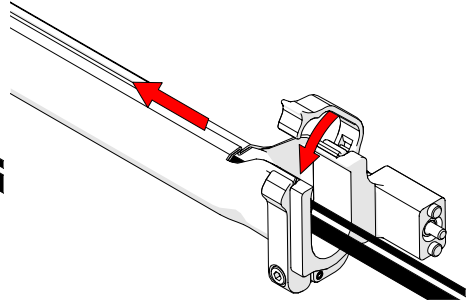

Fig. 164 - Close velcro
2. Follow the cable placement pressing the velcro of sleeving closed (Fig. 164).